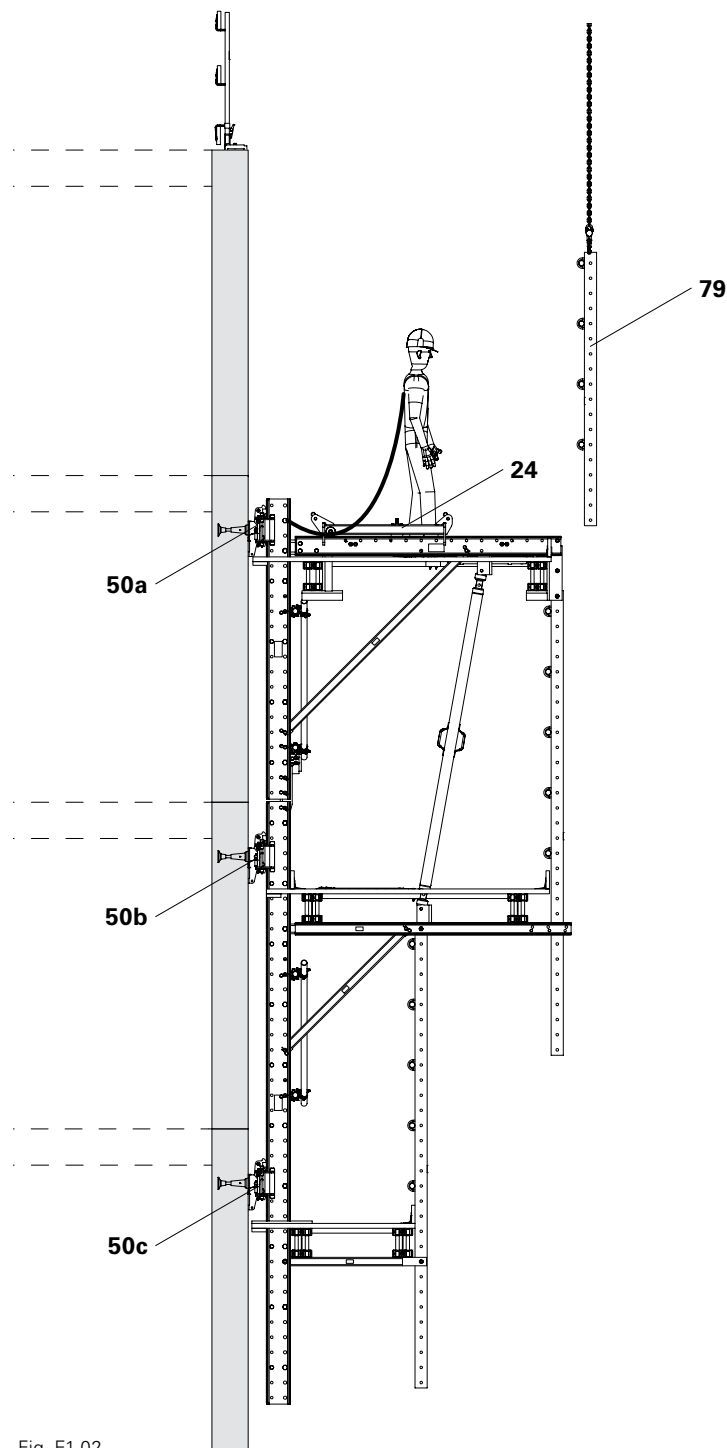

Fig. E1.02
1. Dismantle the side protection (**79**) on the working platform or brace. See Section "C4 Assembly of the Finishing Platform Unit" on page 80. (Fig. E1.02)